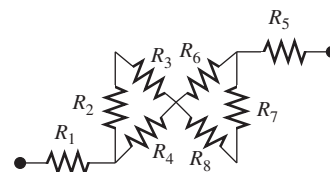

FIGURE P3.5 Circuit for Problem 3.5.
3.5 (A) Identify which resistors are in parallel and which are in series in Figure P3.5.